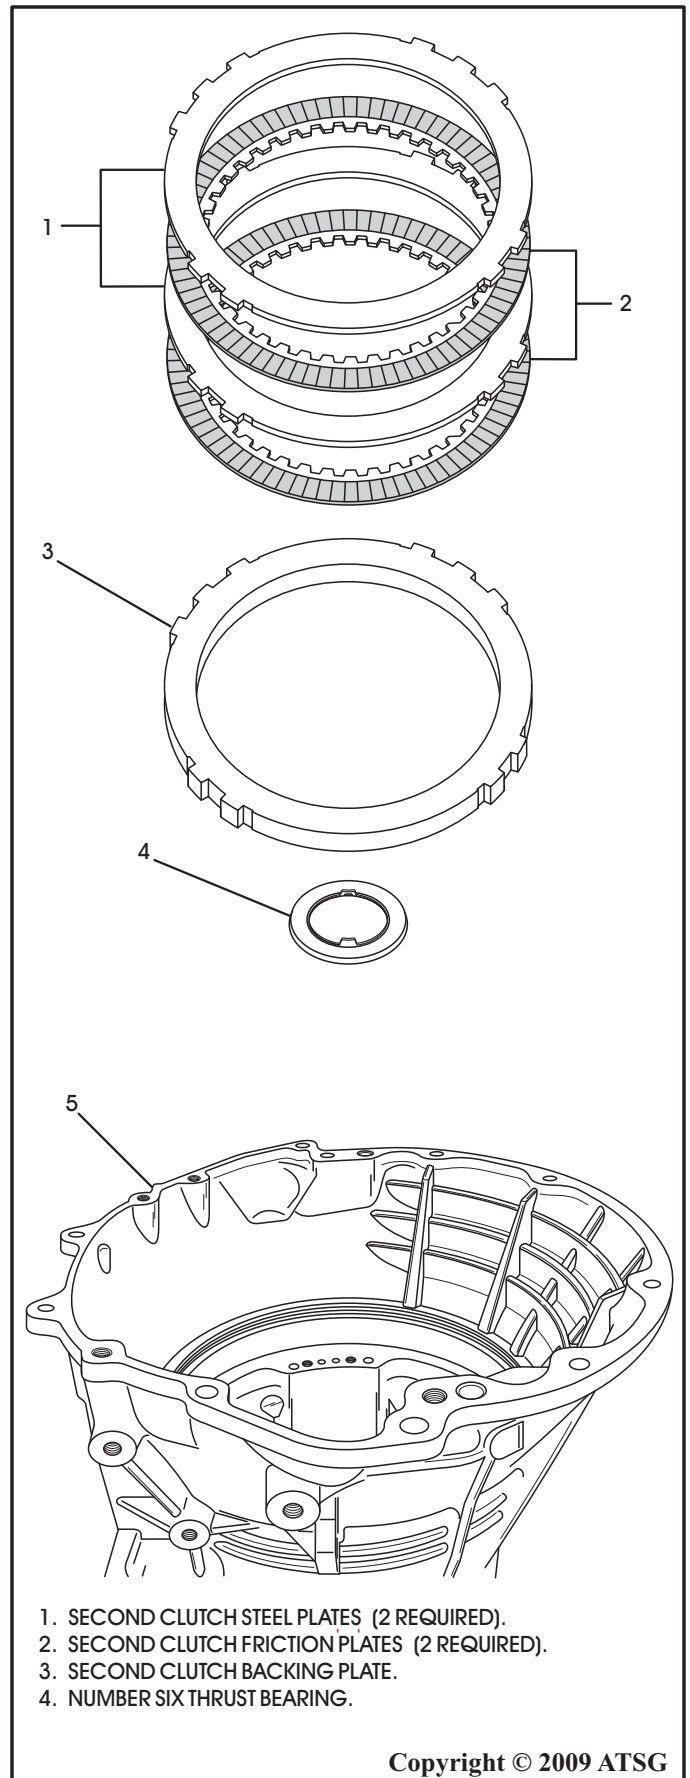

Figure 39
31. Remove the 2nd clutch pack, 2 steel plates and 2 friction plates, from the transmission case as shown in Figure 39.
32. Remove the 2nd clutch pressure plate from the transmission case as shown in Figure 39.